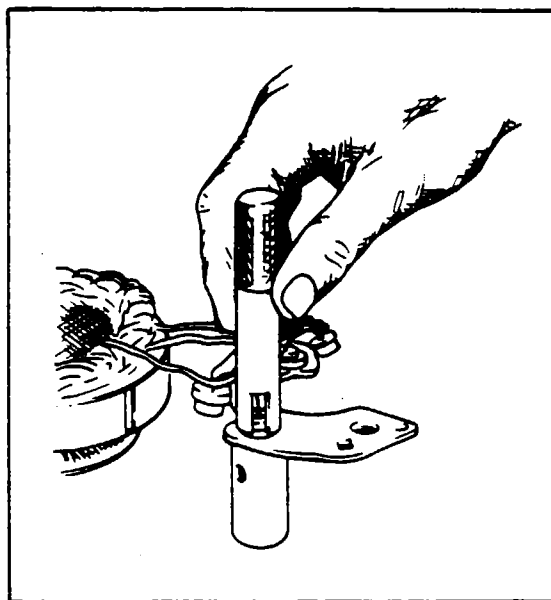

Figure 11-30. Installation of Rectifier
- b. Carefully install the rectifiers in the slip ring end head or rectifier mounting plate by supporting the unit and using the special tools illustrated in Figure 11-30.